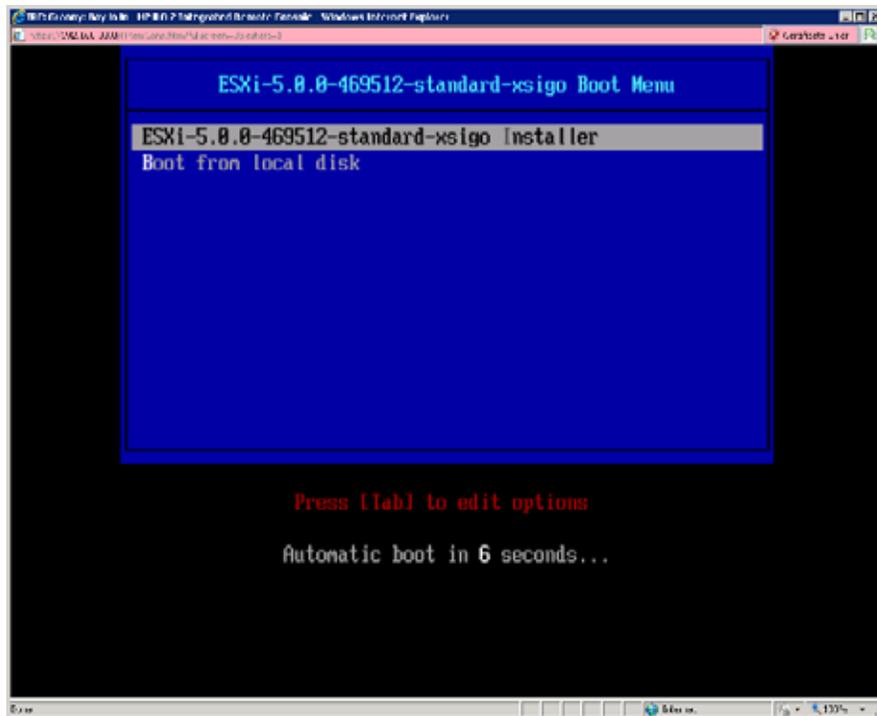

Figure 2 Selecting the Xsigo ESXi 5.0.0 Installer
- Step 1** From the ESXi 5.0 server, locate and mount the modified ISO (ESXi-5.0.0-Standard-Xsigo Installer) as shown in Figure 2 on page 32.